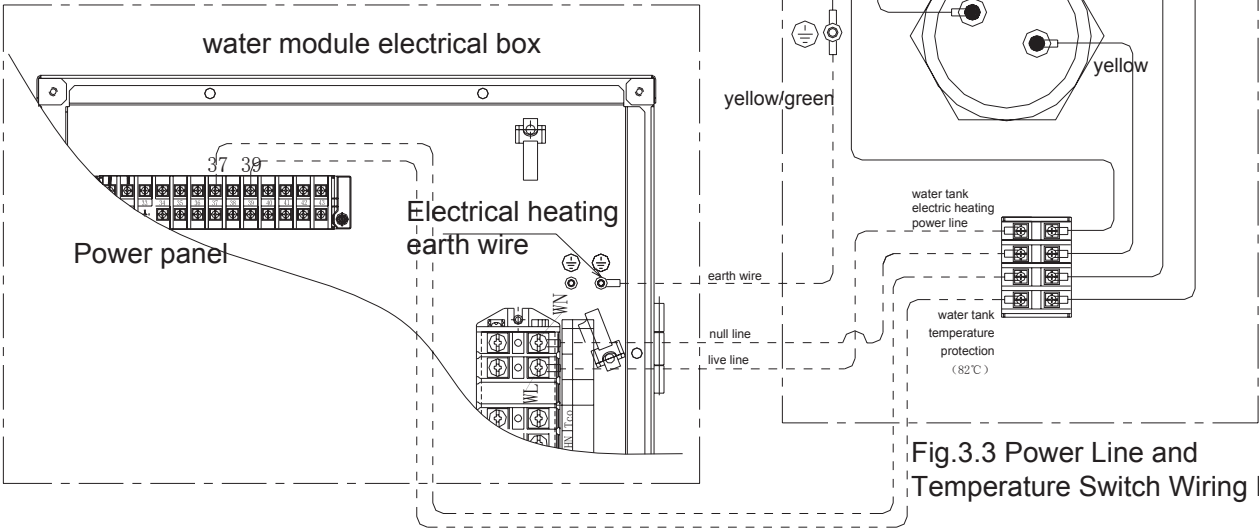

Fig.3.3 Power Line and Temperature Switch Wiring Diagram
- Temperature pressure valve must be tightly connected with drainage pipe. Drainage pipe must be connected as shown in Fig.3.3 and introduced to building downcomer (The water temperature in drainage pipe may be high, note burns).
- (1) Correctly mount cable water proof head and electrical box cover, preventing short circuit caused by water intruding into electrical box.
- (2) Auxiliary electric heating is 3kW. Power line connection should give concern to live line and null line, and be grounded strictly. Detailed wiring diagram refers to wiring diagram and Fig.3.3.
- (3) Temperature sensor is weak electricity signal, preventing mixed with strong electricity signal.